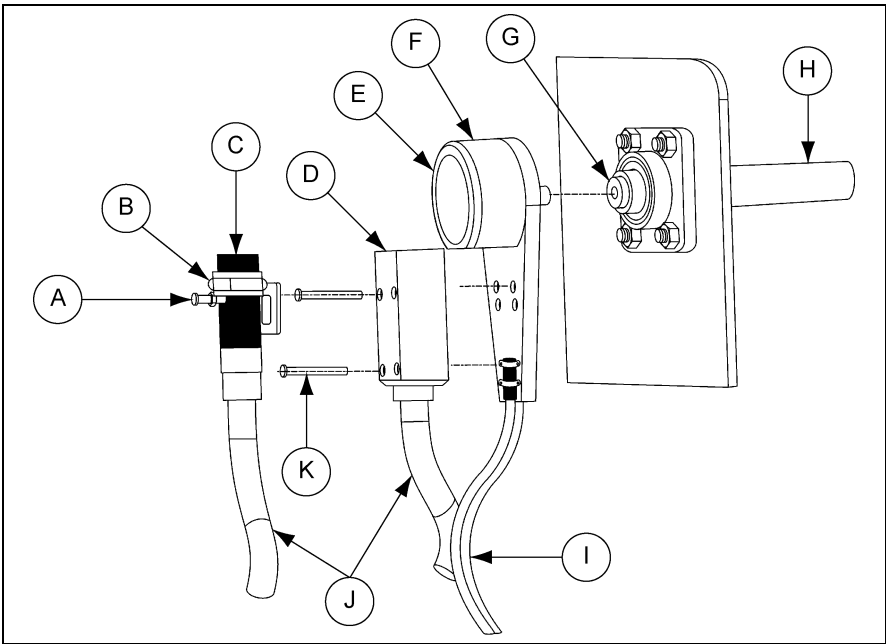

Figure 9A
1. Tail shaft ends (G) are pre-drilled and tapped from the factory.
2. Thread the Whirligig (E) onto the machine shaft (H) using 5/8" open ended wrench and suitable thread locking adhesive (Loctite® or similar). (See Figure 9A.)
3. Install the sensor (D) to the Whirligig base plate. Two (2) sets of pre-drilled holes are provided for M800 sensor. Fit the sensor to leave an approximate 2 mm gap between sensor face and cover (F). A universal bracket (B) (WGB18/30) is supplied for fitting 18 mm or 30 mm sensors.
5. Fix the flexible strap (I) securely to the static structure (if required).